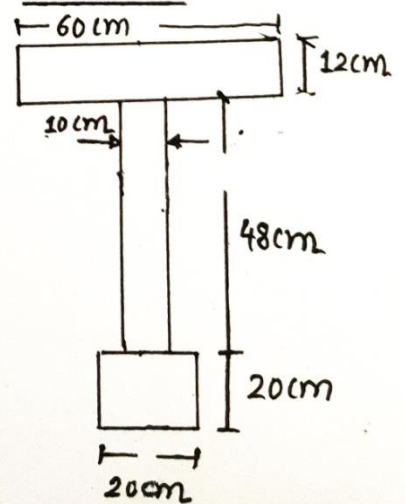

Fig. 06
- (c) Determine moments of inertia of a section shown in fig. 06 about horizontal centroidal axis. **07**
- Q.5** (a) Define: (1) Shear Force (2) Bending Moment (3) Points of contraflexure **03**
- (b) Derive the relation between : (1) Young's Modulus (2) Modulus of Rigidity (3) Possion's Ratio **04**